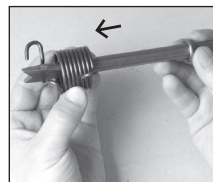

Figure 1
2. Insert a chisel through the spring retainer until the chisel shoulder gets blocked with the spring retainer. (See Figure 1)